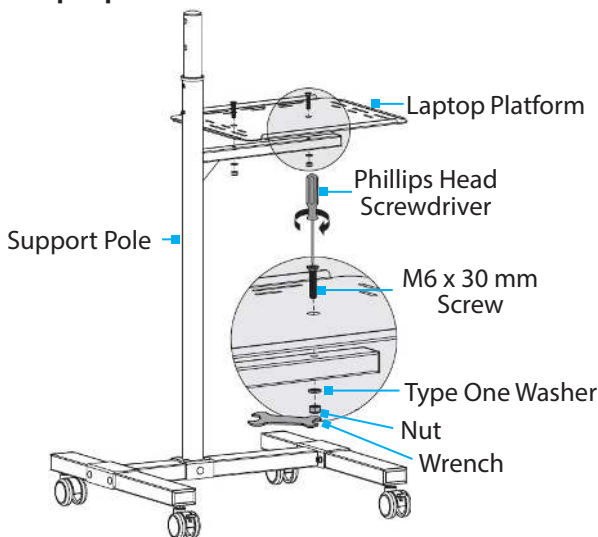

Figure 5
1. Place the **Laptop Platform** onto the ledge located on the side of the **Support Pole**. Align the holes in the top of the **Laptop Platform** and the **Support Pole**. (Figure 5)